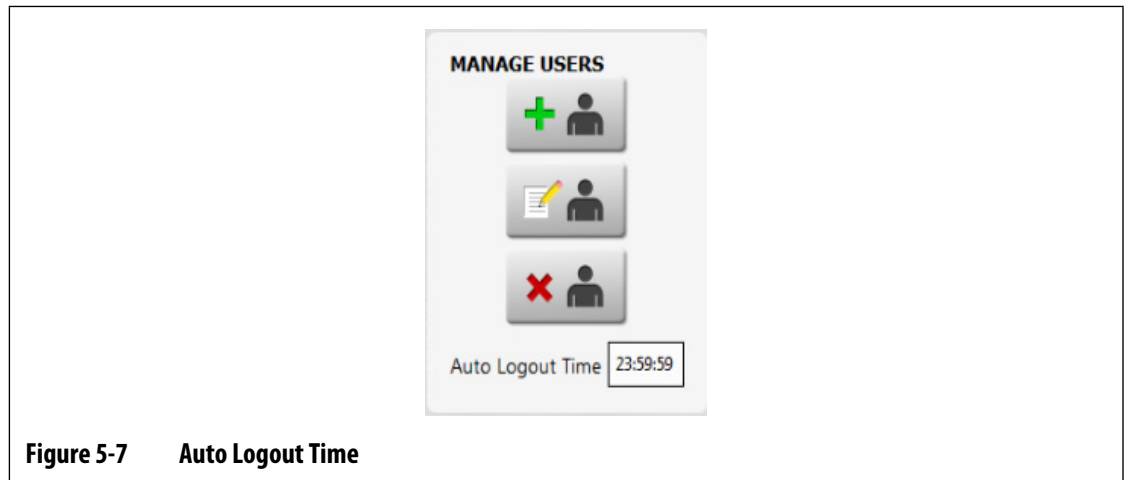

Figure 5-7 Auto Logout Time
3. Touch the **Auto Logout Time** field and enter the desired time value in the dialog window. Refer to Figure 5-7.